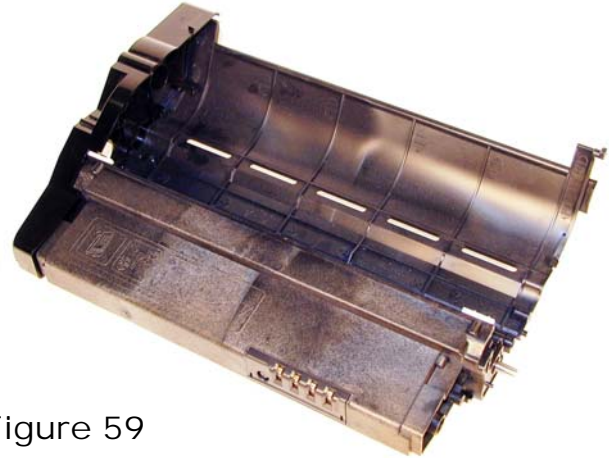

Figure 59
53) Install the waste chamber into the frame. **Figure 59**